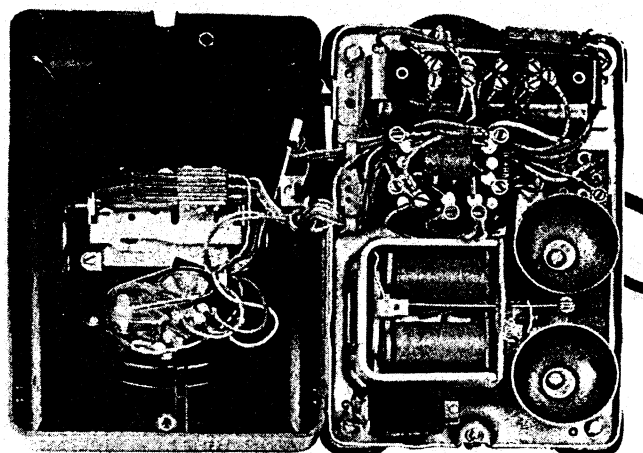

Fig. 9 — 307C Telephone Set — Interior
2.07 The 307-type telephone set is a local battery talking, common battery signaling set. Where a common source of transmitter battery supply is used for more than one set, the 307E, F, and G sets equipped with an F2B handset are used; a battery supply filter is used in the battery supply circuit. (See Fig. 9.)